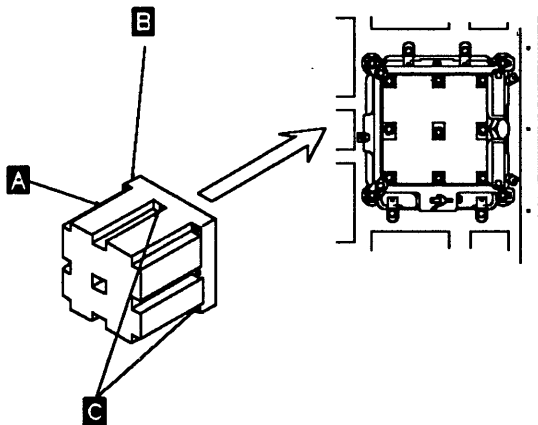

Figure 5-109. Heat Sink Installation
7. Referring to Figure 5-109:
- Use the torque tool to tighten the nine (9) screws **C** which hold the heat sink